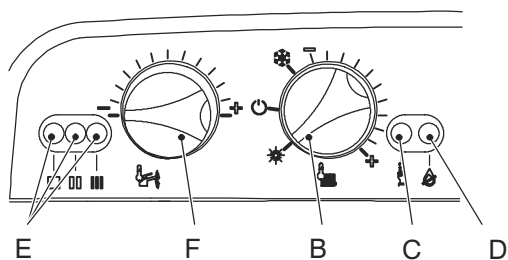

Fig. 11.6
- 19 Set the knob F to the minimum position as illustrated in Fig. 11.6